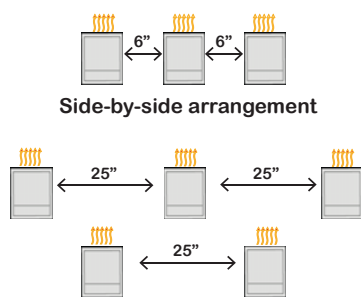

Figure 3
- Position multiple inverters side-by-side, maintaining minimum clearances (see Figure 3).
- Multiple inverters can also be placed in a staggered arrangement (see Figure 3).
- Minimum clearances for staggered arrangements include width of inverter plus additional allowances for inverters arranged above or below (see Figure 3).